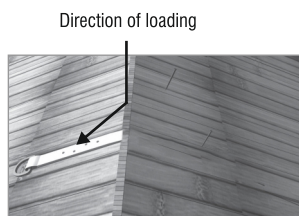

Fig. 2- Position the anchor on the roof and alternately insert the nails
- Press down the anchor legs over the surface and alternately insert the provided nails. Ref. fig.2. Insert fasteners in all the pre-formed holes on the anchor plate as per the table given below.